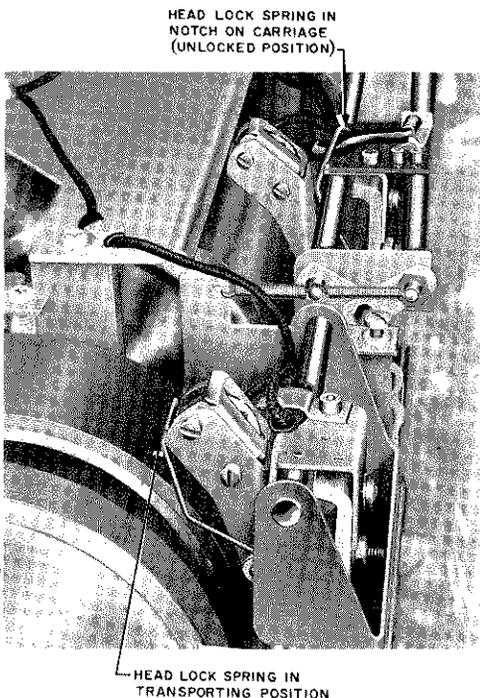

Fig. 1 — Magnetic Recording Heads
- Use head-lock springs to secure both magnetic recording heads (Fig. 1).